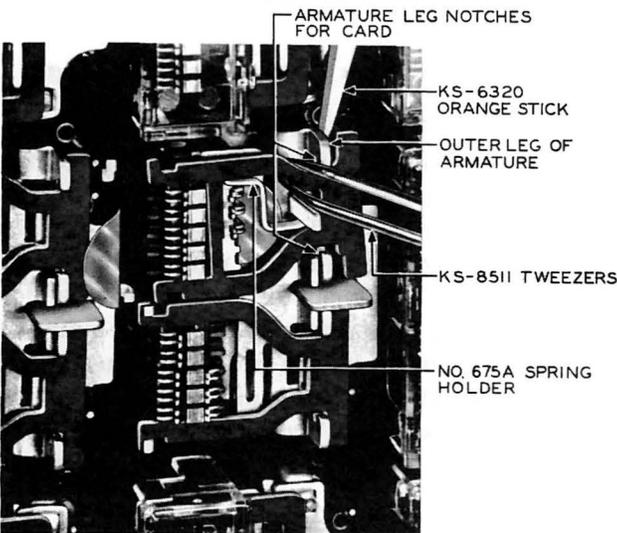

Fig. 6 - Disengaging Card From Armature Legs
3.17 Apply the KS-6320 orange stick to the right side of the outer leg of the armature behind the card and hold the armature in the unoperated position as shown in Fig. 6. With the KS-8511 tweezers, grasp the upper section of the card as shown in the figure and move the card to the right to disengage it from the armature leg notches. Then pull the card forward so that it is in front of the armature legs. Remove the orange stick from the armature.
3.21 Make sure that the circuit designation has been stamped on the new card as covered in 3.08. Then, with the black surface of the new card uppermost and the two notches for the balancing spring legs at the left, grasp the card at the upper notch with the KS-8511 tweezers. Place the card, black surface outermost, on the relay so that the fixed contact springs are between the two vertical parallel sections of the card. Then engage the card on the armature legs as follows. Apply the KS-6320 orange stick to the right side of the outer leg of the armature behind the notch for the card and hold the armature in the unoperated position (see Fig. 6). Grasp the upper section of the card with the tweezers, and move the card to the right and back so that the card is in line with the notch in each armature leg. Then remove the orange stick from the armature and guide the card into the notches.
(b) Disengage the card from the armature legs as follows. Apply the KS-6320 orange stick to the right side of the outer leg of the armature behind the card and hold the armature in the unoperated position (see Fig. 6). Grasp the upper section of the card with the KS-8511 tweezers and move the card to the right and outward to disengage it from the armature legs. With the orange stick applied to the right side of the card, hold the card as far as possible to the left. Grasp the bottom
(c) Remount the card in the armature leg notches as follows. Apply the KS-6320 orange stick to the right side of the outer leg of the armature behind the notch for the card and hold the armature in the unoperated position (see Fig. 6). Grasp the upper section of the card with the KS-8511 tweezers, and move the card to the right and back so that the card is in line with the notches in each armature leg. Then remove the orange stick from the armature and guide the card into the notches.